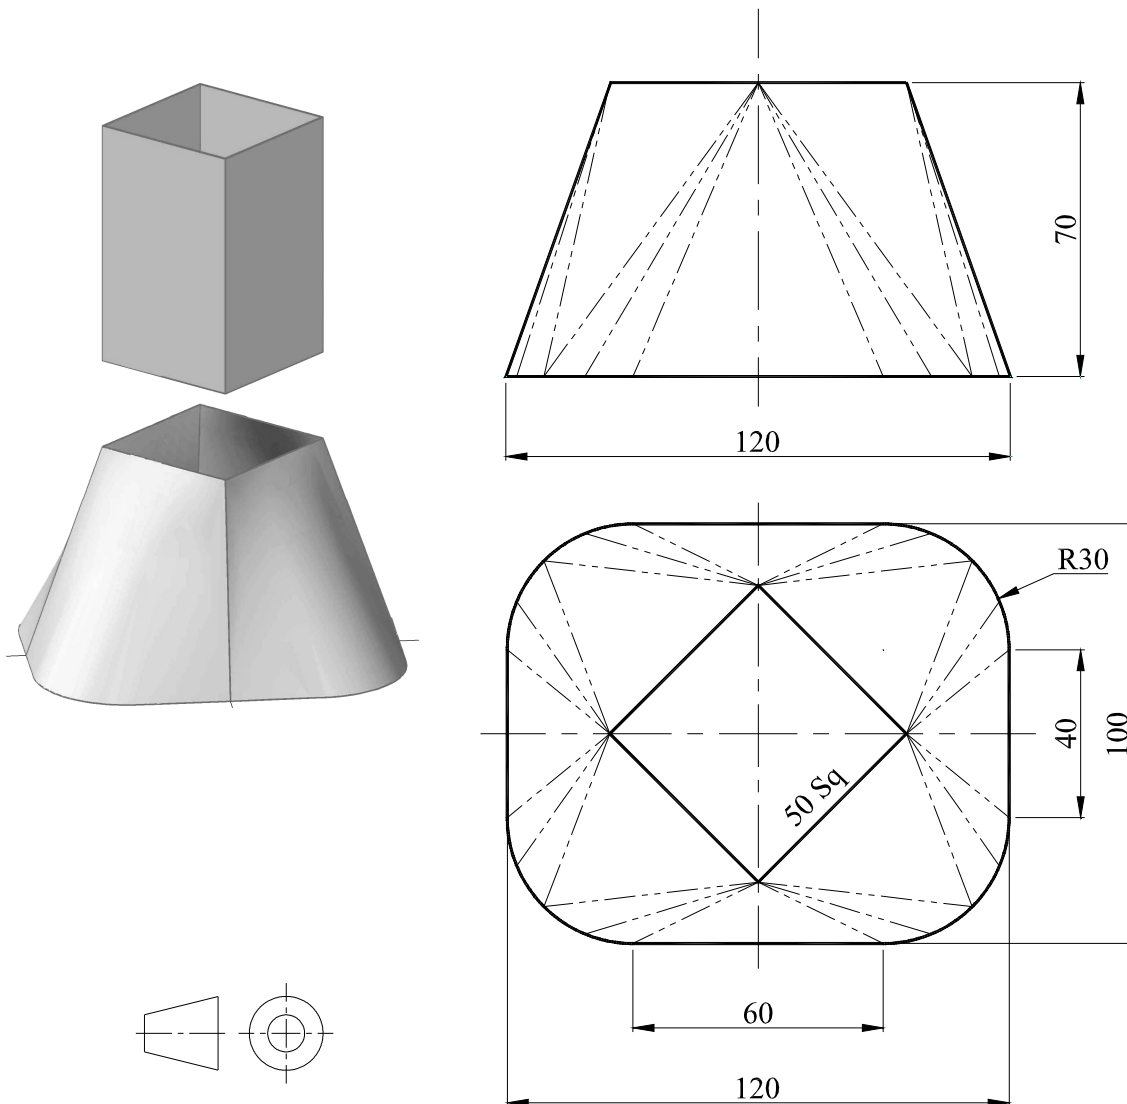

FIG. 2
- Draw, full size, the two given elevations shown in Figure 2;